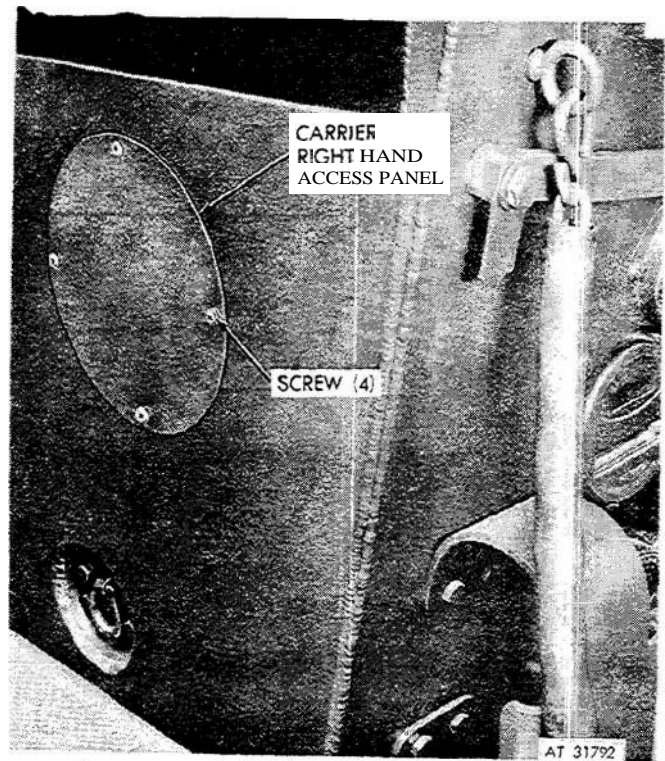

Figure 2-22. Carrier right hand access panel, removal and installation.
(1) Disconnect right carrier access panel from carrier by removing screws (fig 2-22).
(1) Connect elbow (2) to rear differential (1).
(2) Position elbow (6) in side fender well (5) and secure with nut (4). Connect tube (3) to elbows (2 and 6).
(3) Position bulkhead union (10) in rear fender well (11) and secure with nut (12).
(4) Connect tube (7) to elbow (6) and bulkhead union (10) and secure tube with clamp (9), screw (8), nut (14), and spacer (15).
(5) Connect tube (13) to bulkhead union (10).
(6) Position right carrier access panel to carrier and secure with screws (fig 2-22).